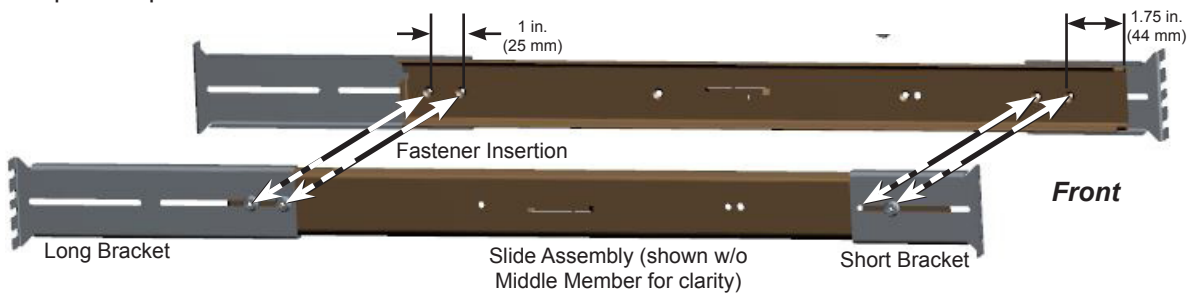

FIGURE 4: ATTACH EXTENDER BRACKETS TO SLIDE ASSEMBLY
2. Attach the long bracket to the rear of the slide assembly with two #8-32 x 3/8 in. screws and serrated nuts (Figure 4). Insert the FHP screws from the inside out, so the nut is on the outside of the slide assembly.
4. Attach the front (short) bracket to the front of the slide assembly with two (2) #8-32 x 3/8 in. screws and serrated nuts (Figure 4). Insert the screws through the access holes provided in the Middle Slide Member.